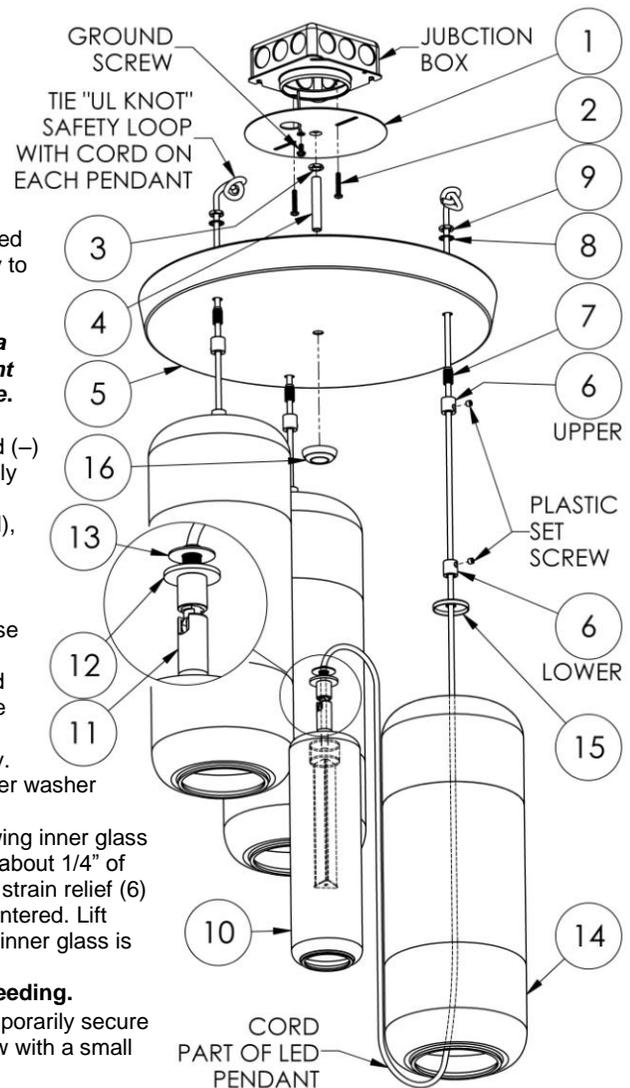
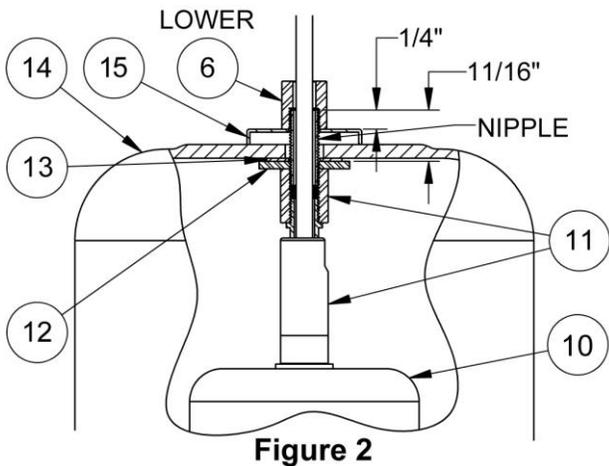
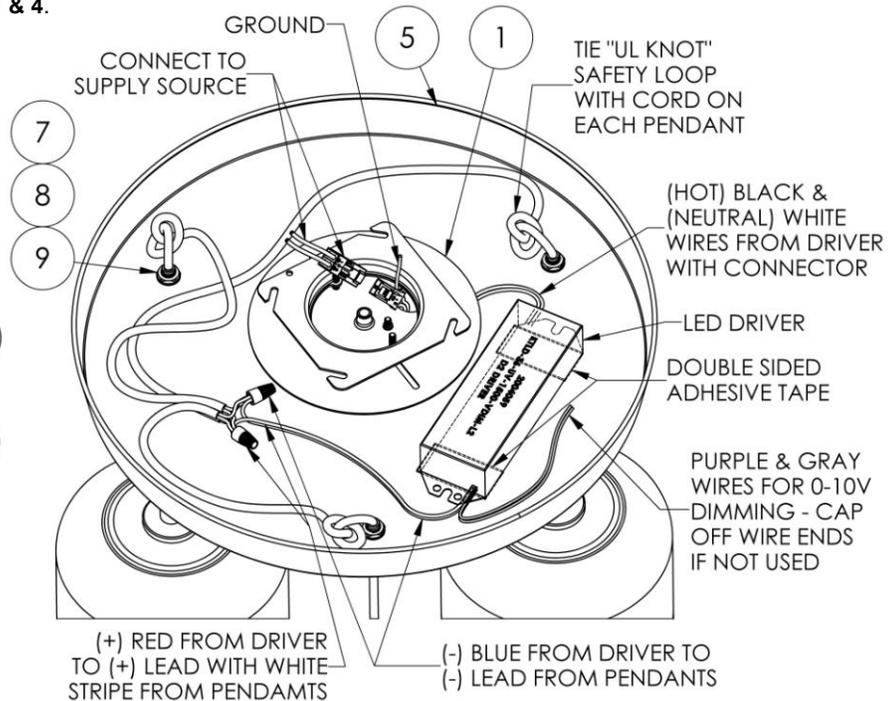
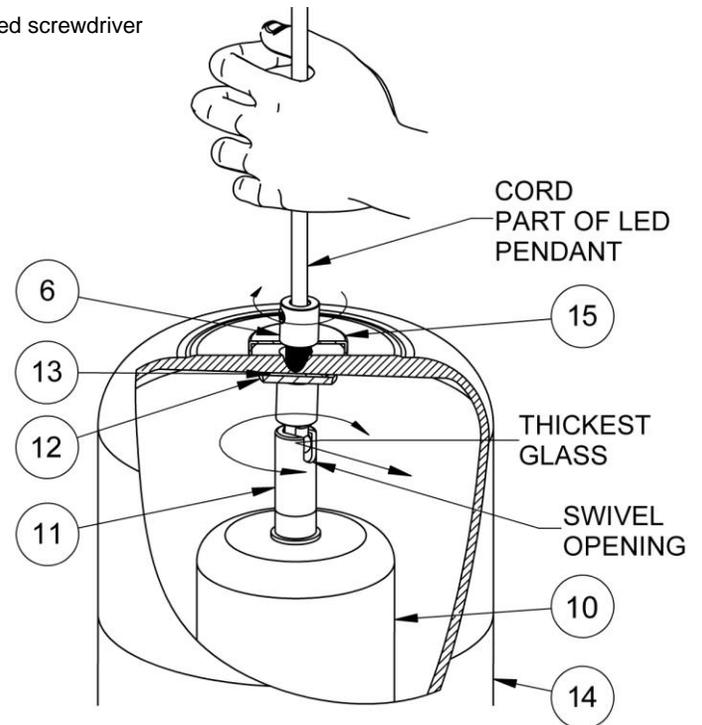

Figure 1
Figure 2
Figure 3
Figure 5
1. Preparing for installation (Figure 1 & 4)
- Bring the supply wires with ground wire through the large hole in the canopy plate (1). Mount the canopy plate to the junction box with two screws (2).
- Thread nipple (4) and jam nut (3) to canopy plate (1) so that there is 1/4" of nipple protruding from the pan (5) for the finial (16) when the plate (1) is mounted to the junction box at the ceiling per **Figure 1 & 4**. Tighten the jam nut securely to the plate.
- Securely attach green (or green and yellow) wire from supply to green ground screw in plate (1). **This unit will not operate properly unless connected to a "grounded" electrical circuit. Electrical shock, overheating, low or no light output, and shortened lamp life can result if proper grounding is not done.**
- Remove the large end of the connector attach it to the corresponding (+) and (-) supply wires from the junction box, **Figure 3**. Make sure the connected supply wires are secure and tucked inside of junction box.
2. Pendant Glass Assembly for (3) Pendants (Figure 1, 2 & 5)
- Uncoil cord, part of LED pendant inner glass assembly (10) and thread the loose end through outer glass (14), cap (15) & lower strain relief (6), per **Figure 1**. Remove the tape from the nipple near rubber washer (13). Make sure threaded washer (12) is snug against the threaded insert in the swivel (11) and that none of the components are loose. Approx. 11/16" of the threaded nipple should protrude above (12) per **Figure 2**. If adjustments are needed, hand tighten only.
- Carefully bring inner glass assembly (10) up into the outer glass (14) with rubber washer (13) against the inside top of outer glass (14), **Figure 2**.
- You may set the outer glass on a table to do this step. Hold onto the cord allowing inner glass (10) to hang, as in **Figure 5**. With the cap (15) on top of (14). There should be about 1/4" of threaded nipple above (15), **Figure 2**. While holding the cord, thread the lower strain relief (6) onto the nipple. Make any adjustments so that the inner and outer glass are centered. Lift entire glass assembly by the cord and check that the swivel is straight and the inner glass is hanging straight. Additional adjustments may be necessary. **If inner glass is not straight, go to step 6. Swivel Adjustment before proceeding.**
- Insert the upper strain relief (6), threaded side up onto the cord, **Figure 1**. Temporarily secure upper strain relief onto cord at desired height by tightening the plastic set screw with a small slotted screwdriver (not included).
3. Fixture Assembly (Figure 3 & 4)
- Feed cord through each pendant hole in decorative canopy (5) and move to the upper strain relief (6) position.
- For each pendant, pass the cord through nipple (7) and thread it into the upper strain relief. Assemble the lock washer (8) and nut (9) onto the nipple from inside the canopy. Make sure the nut on the inside of (5) and strain relief are securely tightened to canopy (5).
- Tie a safety loop, "UL knot" right where the cord comes into the canopy per **Figure 3**. Depending on the length, excess cord may be coiled up inside the canopy, or optionally cut and re-stripped.
- A strip of double sided adhesive tape is provided to affix the driver to the canopy. Affix tape to bottom of driver, and driver to inside of canopy (5) without blocking any holes as shown in **Figure 3**.
- Plug the connector from driver into the supply from junction box, **Figure 3**.
- Secure with large finial (16) onto the stem, **Figure 1 & 4**.
- Turn the inner glass assembly with swivel (11) so that the opening on the swivel is facing the thickest part of the glass. **Figure 5, 6 & 7.**